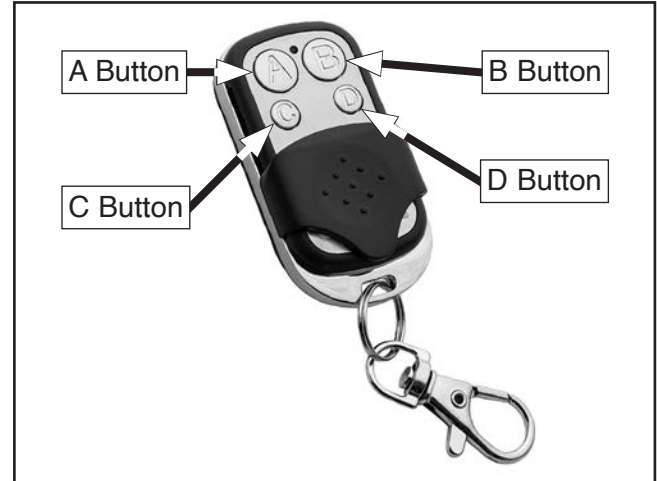

Figure 66. Location of remote control buttons.
3. Press and hold D button on remote control (see **Figure 66**). Pairing is complete after the second audible beep.
5. Press C button to turn filter brush motor **ON** (see **Figure 66**)